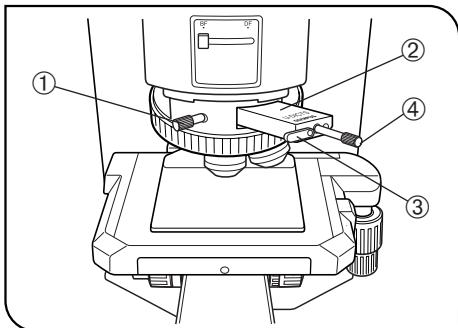

Fig. 12
(Fig. 12)
1. Adjust the background contrast by turning the slider movement knob ④ on the DIC slider as described below. (Fig. 12)